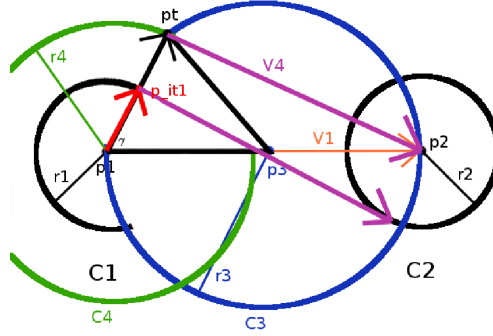

Figure 9: Step 7
7. Now that we have p_t , we can draw a vector \vec{V}_4 from p_t to p_2 like in Figure 9. Note that this vector is parallel to an inner tangent between C_1 and C_2